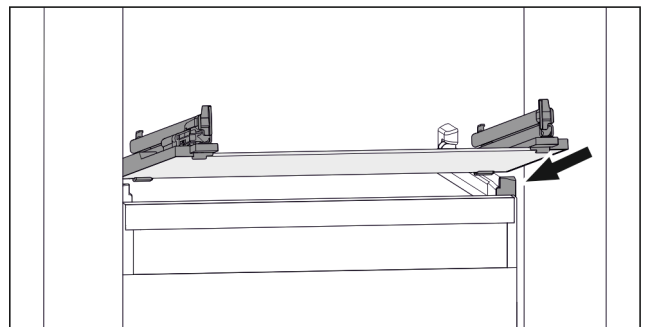

Fig. 73 Example illustration of glass shelf
- Position glass shelf at an angle behind the stoppers. (see Fig. 73)